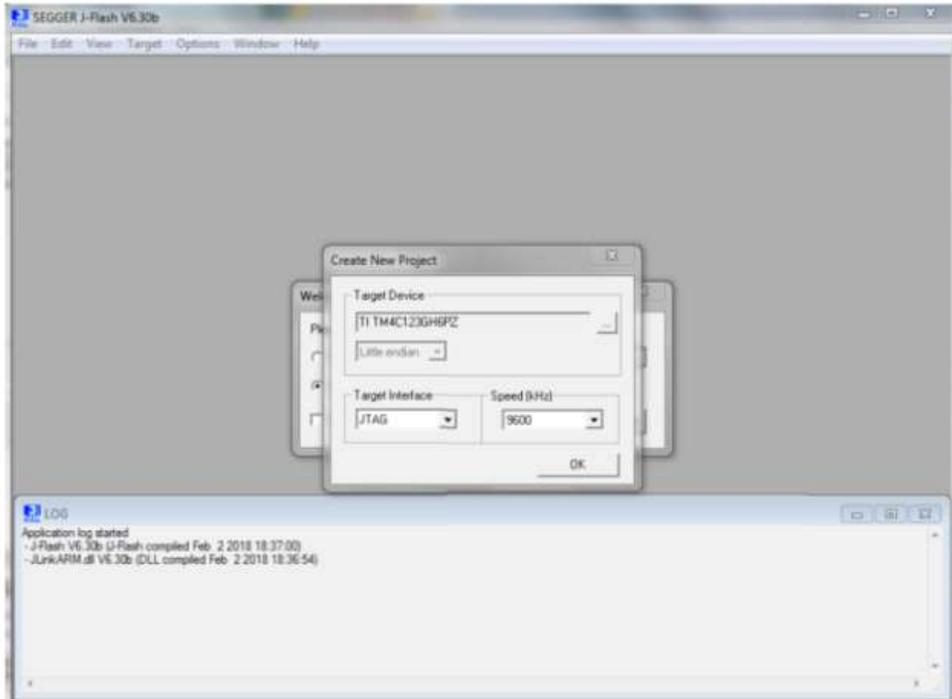

Figure 21: Create new project 2 [Project\_settings]
7. The pop-up “Create New Project” re-appears. Select “Target Interface” “JTAG”, then “Speed [kHz]” “9600” and click “OK” (Figure 21,  STMA-69140);